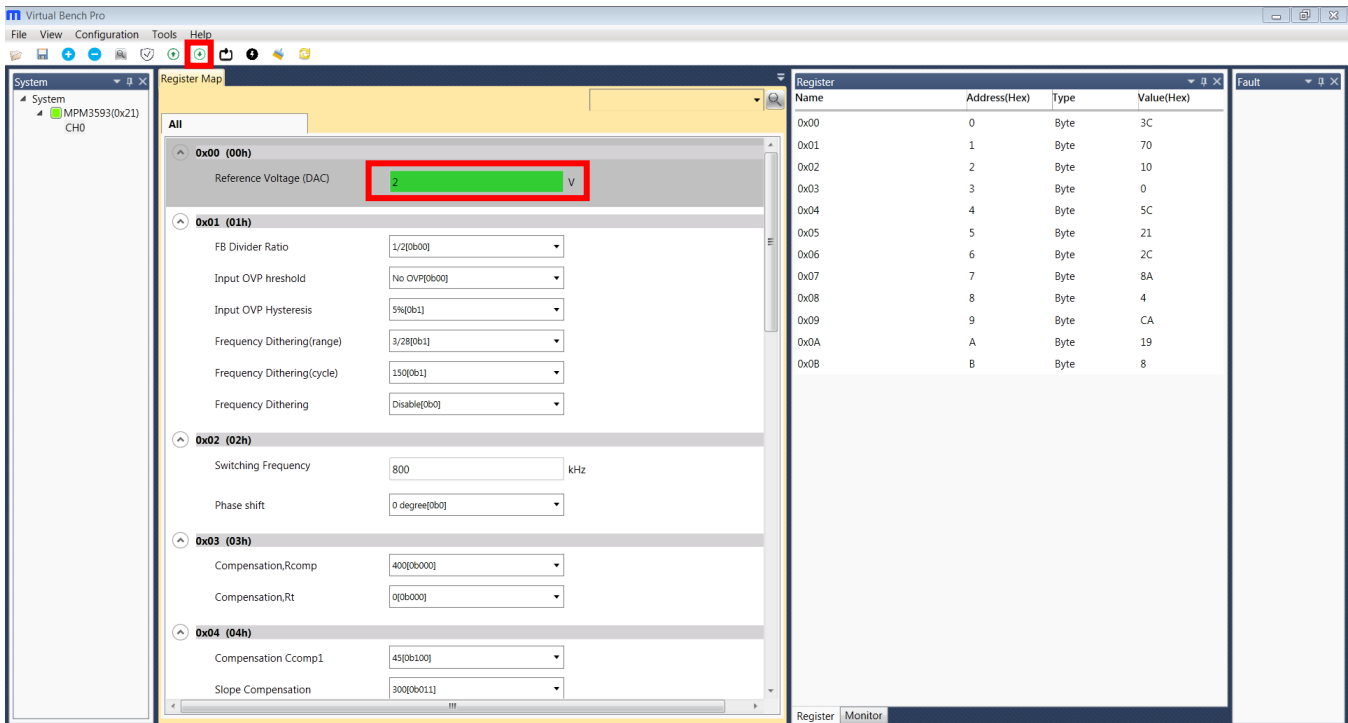

Figure 9: Write Values Steps Shown in Table
4. Click the “Write to chip” button to write values to the register (see Figure 9).